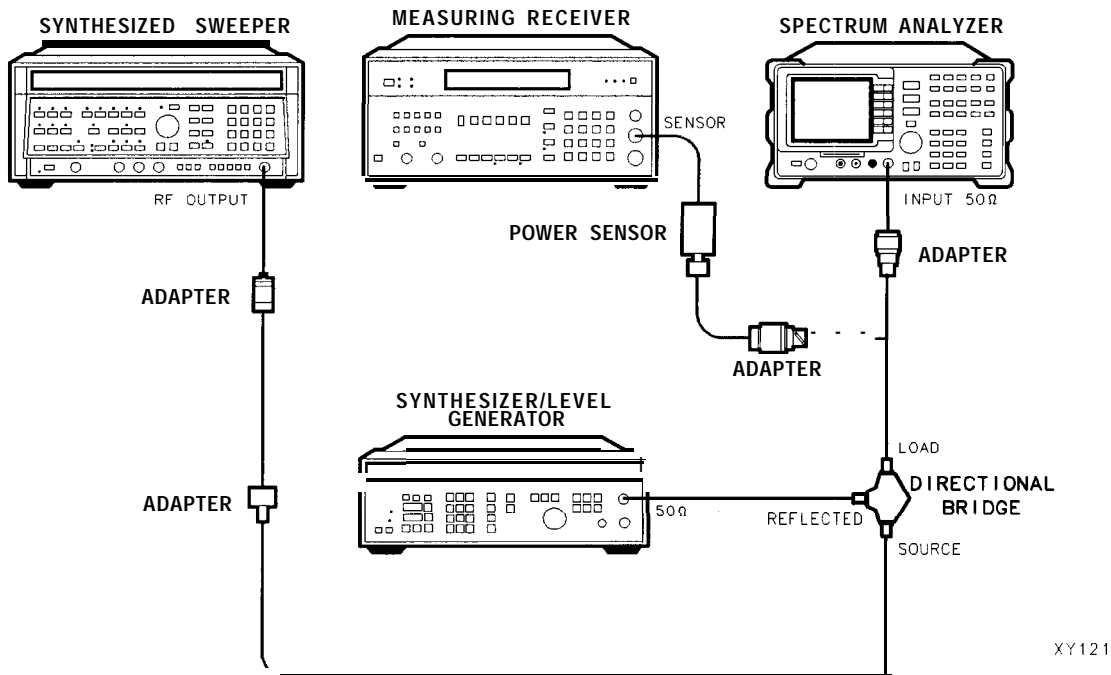

Figure 1-22. Gain Compression Test Setup
2. Connect the equipment as shown in Figure 1-22, with the load (reflected) of the directional coupler connected to the power sensor.